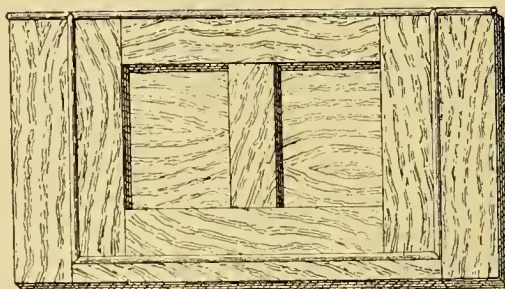

FIG. 33.—FRONT OF BOX.
*The Front.*—This part, which has two distinct portions—to wit, the *frame*, and the *sliding-front*—presents a decided contrast to the preceding pieces in point of complication of construction, but I have little doubt that the worker will be able to thread his way through the explanation, with the aid of the diagram (Fig. 33).